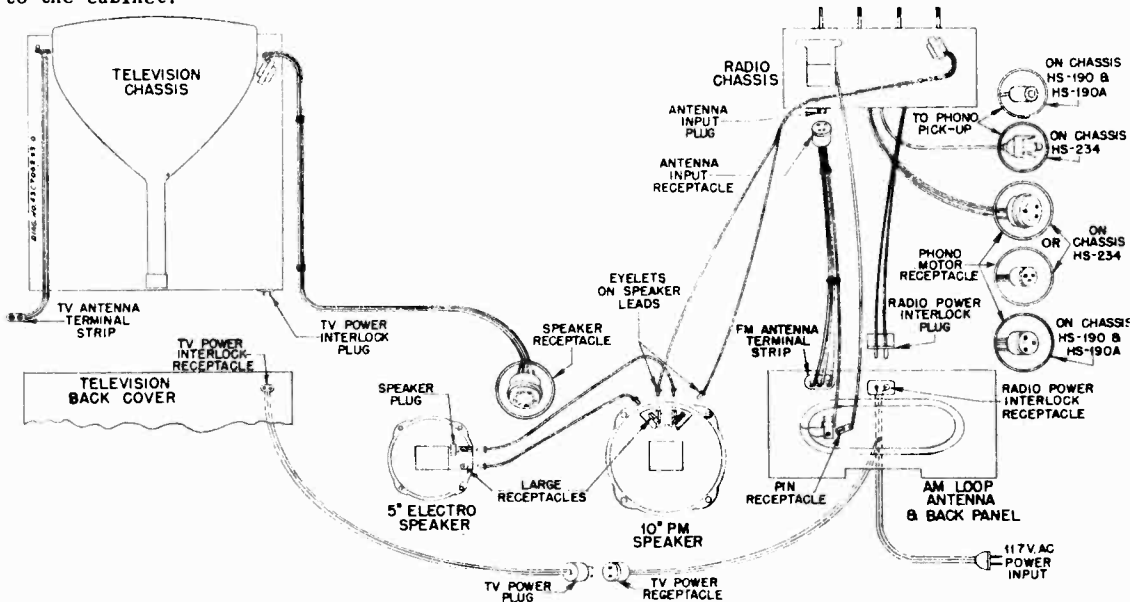

FIGURE 3. INTERCONNECTING CABLE DIAGRAM
10. Refer to Figure 3 when reassembling the chassis into the cabinet.